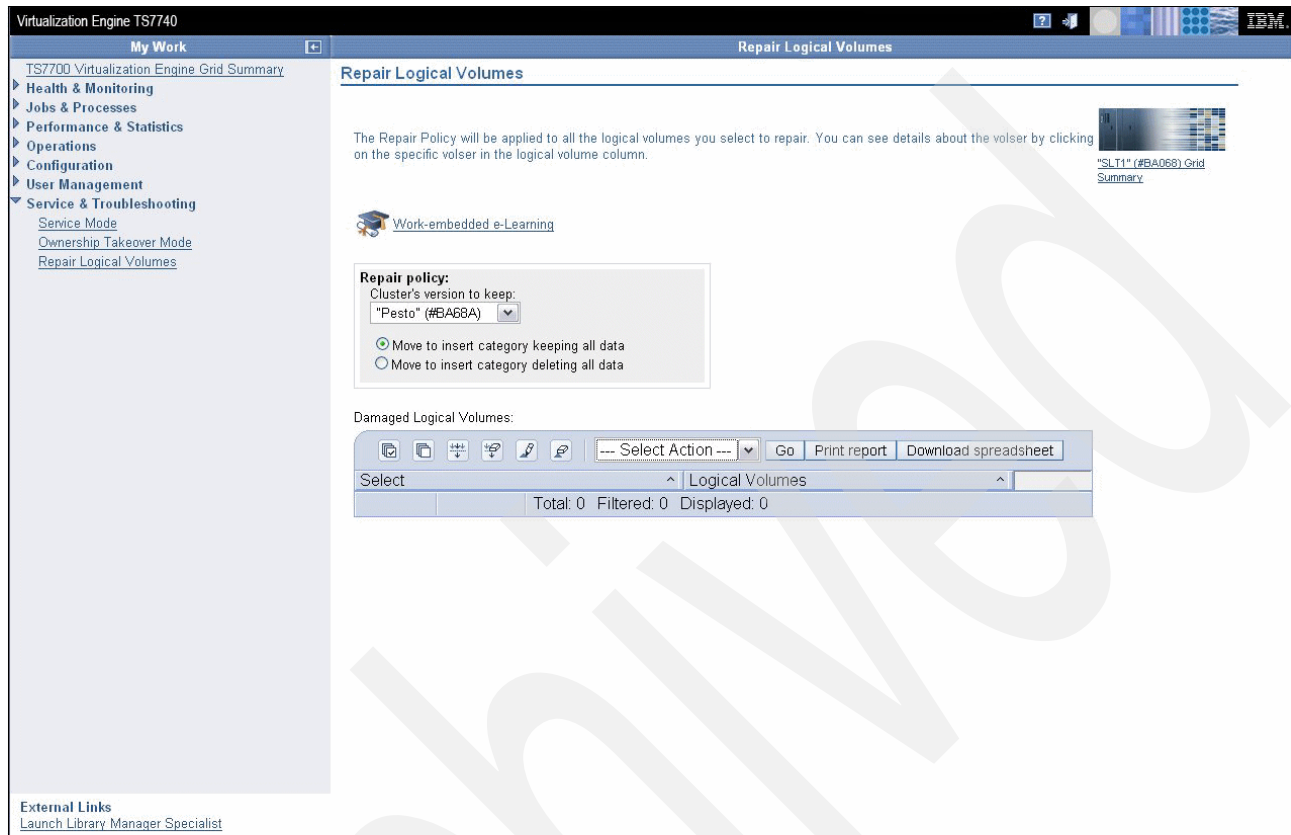

Figure 7-53 TS7700 Management Interface Repair Logical Volumes
Use this panel (Figure 7-53) to repair logical volumes in the damaged category for the IBM Virtualization Engine TS7700 Grid.
- ▶ **Repair Policy:** The Repair Policy will be applied to all the logical volumes you select to repair. You can see details about the volser by clicking the specific volser in the Logical Volume column. At the top of the panel shown in Figure 7-53 you see the repair policy that will be applied to all damaged logical volumes selected. Table fields are: